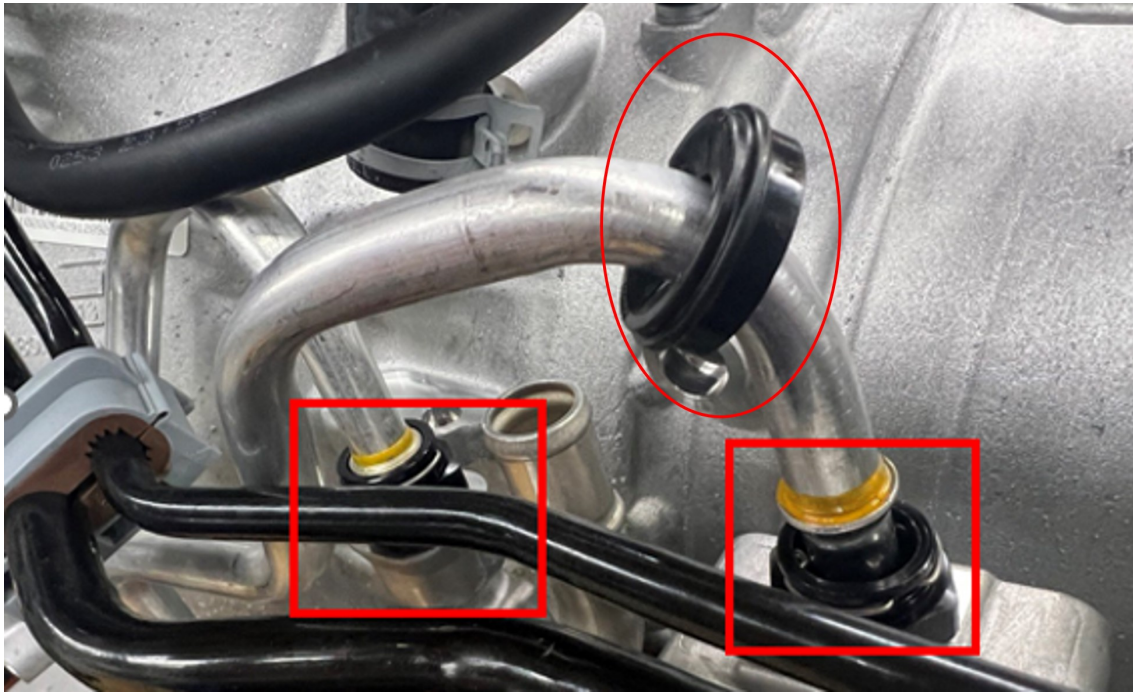

Fig. 2
- NO>>> The lines are not fully seated (Fig. 2), Proceed to Step 1 of the Repair Procedure.